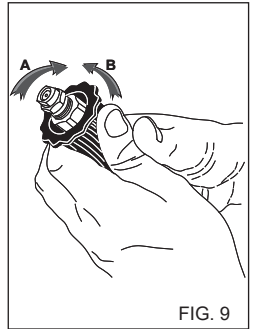

FIG. 9
**ANVENDELSE AF DET REGULERBARE HOVED (fig. 9)**